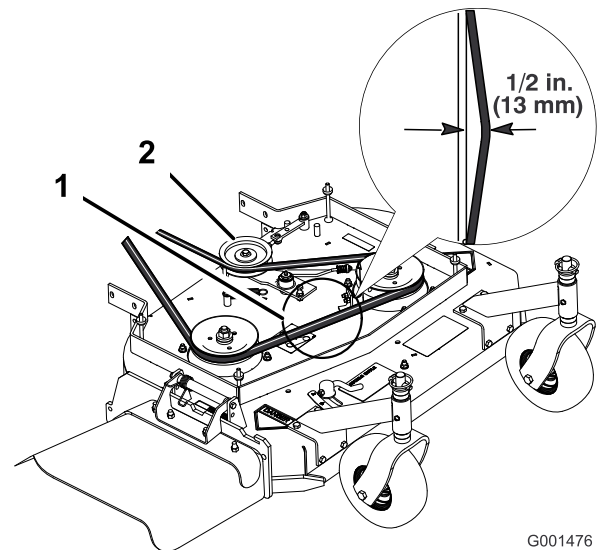
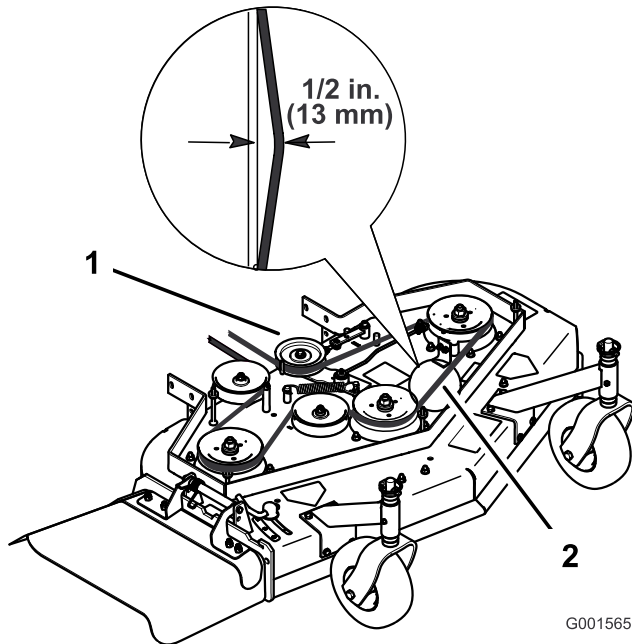

Figure 51
Figure 52
Note: The proper mower belt tension is 10-15 lbf. (44-67 N) with the belt deflected 1/2 inch (13 mm) halfway between the pulleys (Figure 51 or Figure 52).
3. Loosen the locknut on the turnbuckle (Figure 51).
4. Rotate the turnbuckle toward the rear of the mower to increase the tension on the belt. Rotate the turnbuckle toward the front of the mower to decrease the tension on the belt (Figure 51).
Note: The proper mower belt tension is 10-15 lbf. (44-67 N) with the belt deflected 1/2 inch (13 mm) halfway between the pulleys (Figure 51).
Note: The proper mower belt tension is 10-15 lbf. (44-67 N) with the belt deflected 1/2 inch (13 mm) halfway between the pulleys (Figure 52).